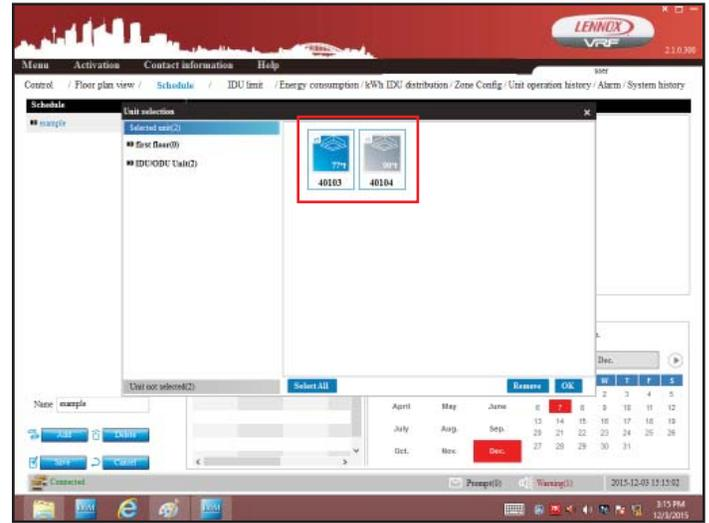

Figure 30. Select Indoor Units to Remove
2. The indoor units that are currently assigned to the selected schedule will display in a popup window. Tap each unit to be added to the schedule. A blue box will appear around the indoor unit when it is selected. See figure 30.